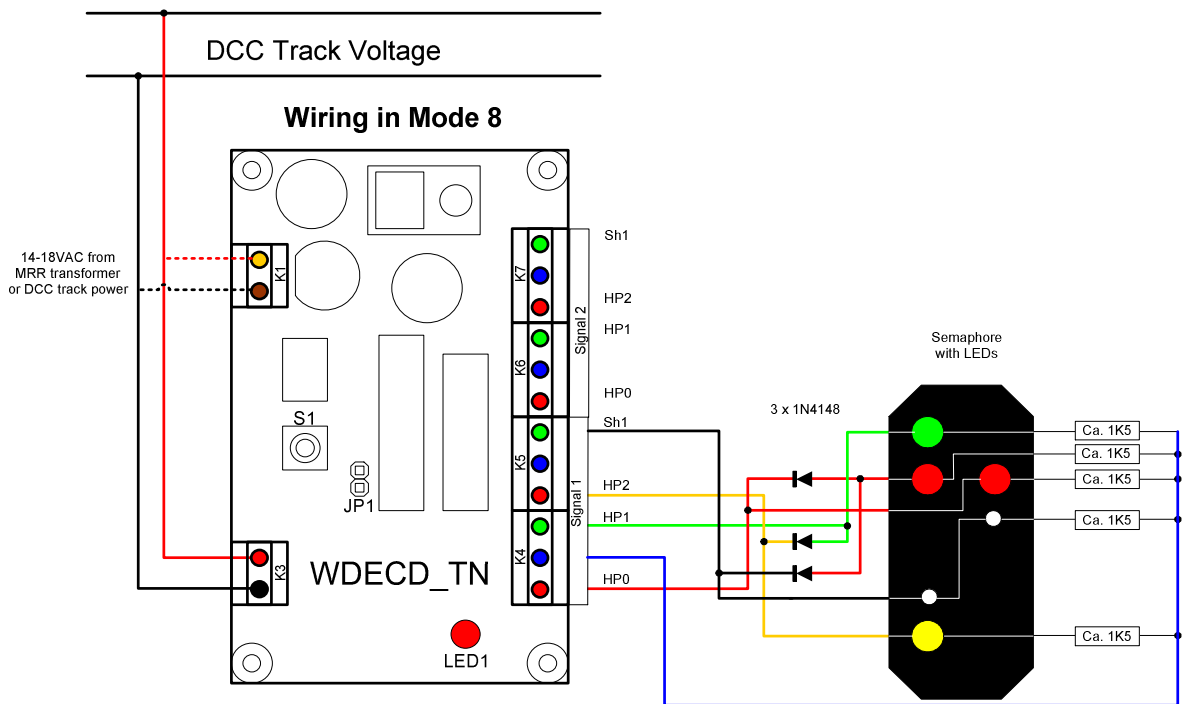

Figure 4 Wiring of the decoders in mode 8
In mode 8 you can operate 2 signals with 4 aspects each. Aspects using more than one lamp or LED must be isolated with diodes. The example in figure 4 shows how a main signal of the Deutsche Bahn (DB) with 6 lamps or LEDs and 4 aspects should be wired.